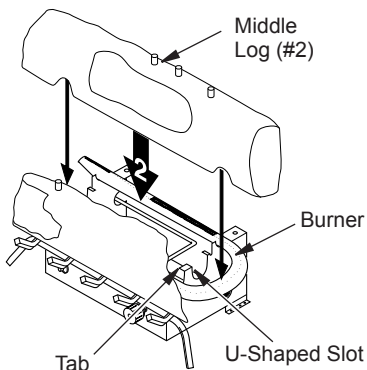

Figure 20 - Installing Middle Log #2 (CCL3924PTA/NTA Shown)
- Place base of middle log (#2) in U-shaped slots of grate base. Cutout on right of middle log should fit over burner (see Figure 20, page 17). Make sure front of middle log is resting on tabs of grate base.